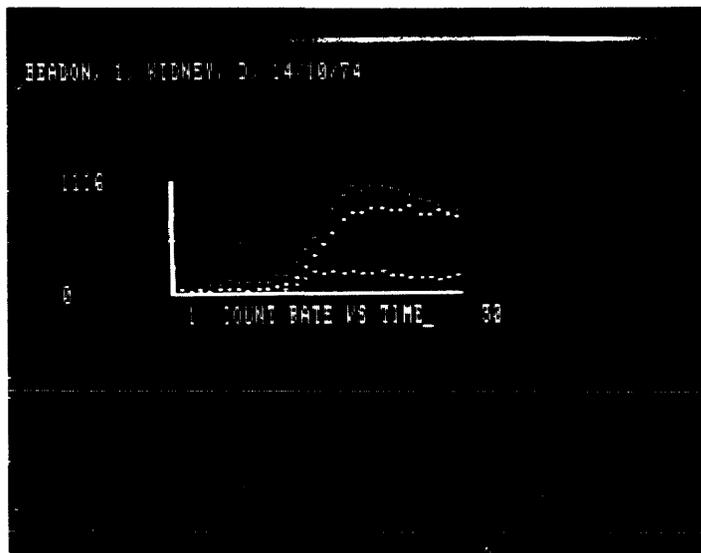

FIGURE 25. Dynamic curves of the 3 ROIs
- 4) plot the curves and save them in a save area ( $SD_n$ ) (Figure 25).